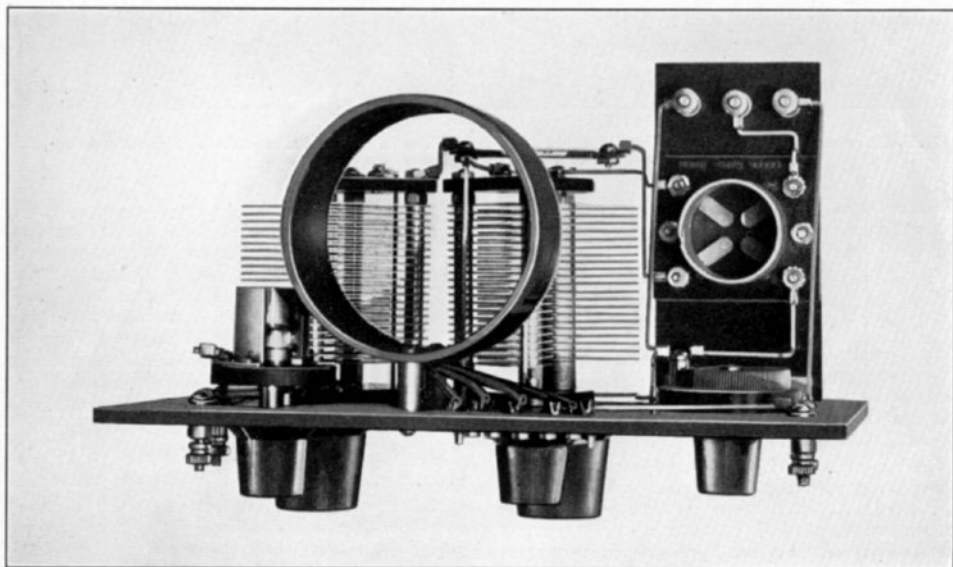

Fig. 4 Looking down on the set you can see the vernier condenser and the mounting of the various parts
6. Next, attach the vernier condenser as shown, slipping a spacing washer over the screws, these being placed between the back of the panel and the circular disc of the vernier. These can be seen in Fig. 4.